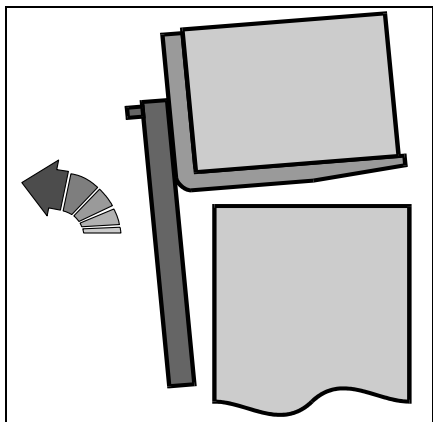

Figure 4-13: Tilting the Load
10. Tilt the mast back to make sure the load will not slide off the forks. See Figure 4-13. Raise the load only high enough to clear the rack or the load backrest may catch the rack.